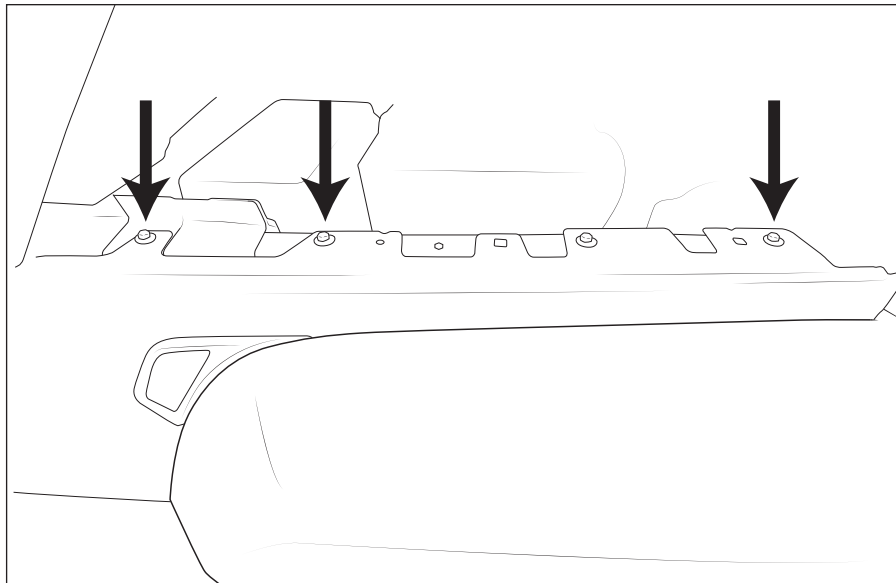

Figure 8
2. Remove the two rear and one front fender bolts (fig. 8) to prepare the vehicle for mounting the snorkel. These will all be reused.